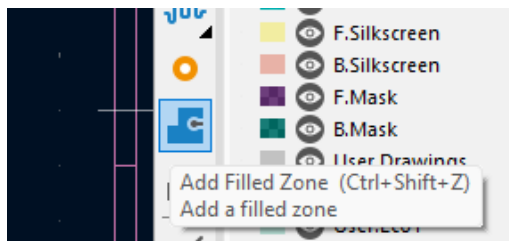

Figure 5: Fill Area (Ctrl+Shift+Z) Button
1. Click the **Fill Area (Ctrl+Shift+Z) Button** (seen in Fig 5).